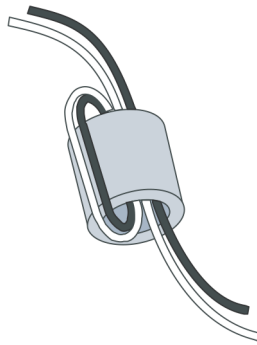

Figure 6: Ferrite bead installation
2. Loop the wires through the bead as shown in Figure 6.